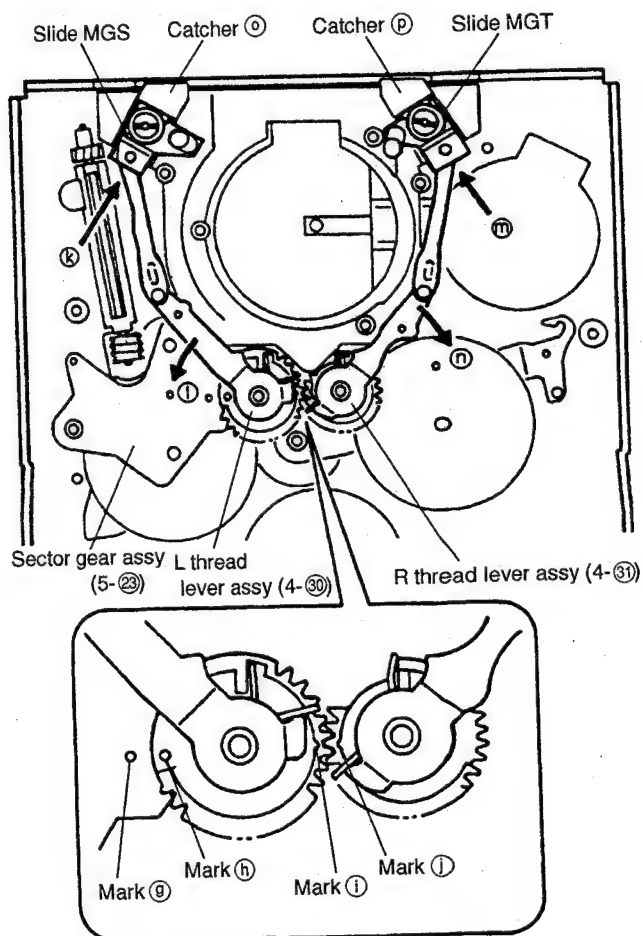

Fig. 5
- 1) As shown in Fig. 5, install L thread lever assy (4-30) so that mark ⑨ on L thread lever assy (4-30) is aligned with mark ⑨ on Sector gear assy (5-23).
- 2) Insert Slide MGS into the groove of catcher ① by pushing it from the direction of arrow ①. (While retracting the lever of L thread lever assy (4-30) in the direction of arrow ① with one hand, then with the other hand, push Slide MGS towards the groove of catcher ① and release the hands.)
- 1) As shown in Fig. 5, install R thread lever assy (4-31) so that mark ① on R thread lever assy (4-31) is aligned with mark ① on L thread lever assy (4-30).
- 2) Insert Slide MGT into the groove of catcher ② by pushing it from the direction of arrow ②. (While retracting the lever of R thread lever assy (4-31) in the direction of arrow ② with one hand, then with the other hand, push Slide MGT towards the groove of catcher ② and release the hands.)